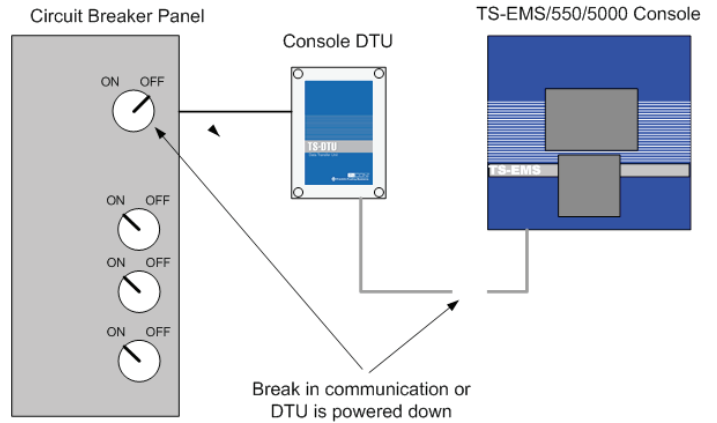

Figure 2 - Console DTU powered down or lost communication
2. Console DTU is powered down or disconnected from the Console. The Console DTU transfers the Remote DTU data to the console. If this Console DTU loses communication either due to being powered down or disconnects from the bus, then all the Remote DTUs will issue the “Remote DTU is Offline” alarm. In conjunction, you should also see a “Console DTU Module Mismatch” alarm. See Figure 2
2. ISD alarm 1 to 2 minutes before the “Remote DTU is offline” alarm occurs. (Refer to Figure 2).
The result of an ISD Vapor Collection Failure alarm is that the console shuts off power to the dispenser. In Figure 2, Dispenser 3 generated an VRM Failure alarm for both its fueling point and shutdown the dispenser. A minute and half later, “Remote DTU is offline” alarm was generated because the DTU did not have power.